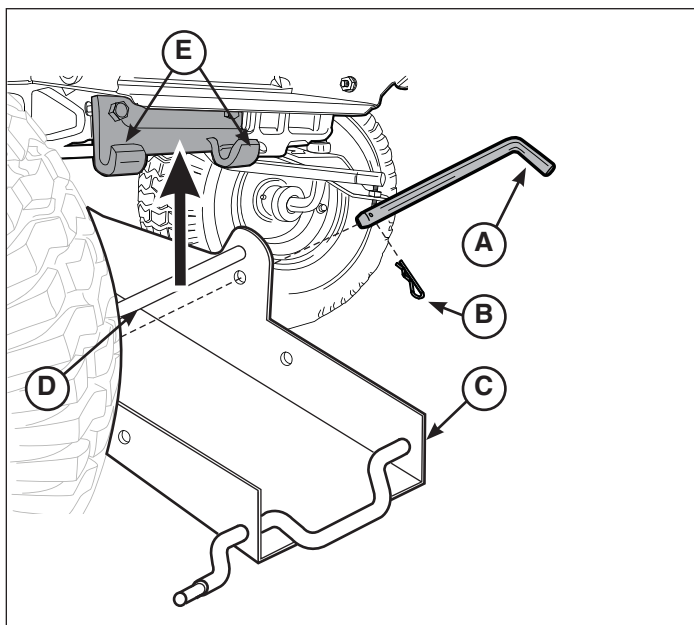

Figure 6
7. At front of the machine, locate latch rod (A, Figure 6) and remove hair pin (B) and slide out of reach (C).
9. Lift the reach (C) and place the latch rod (D) onto the tractor frame support fingers (E).
10. From the left side of the tractor, re-install latch rod (A) through the holes on each side of reach.
11. Secure the latch rod (A) with the hair clip (B).